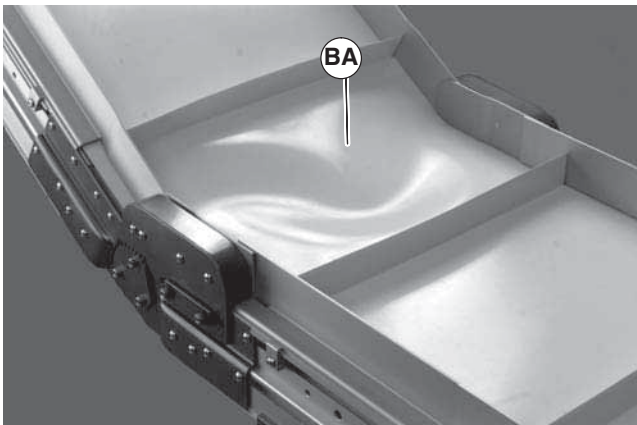

Figure 39
- Extend head plate assembly until proper tension in the belt is achieved. If proper tensioning can not be obtained before the belt life indicator is all black (Figure 39, item BB) the belt must be replaced.